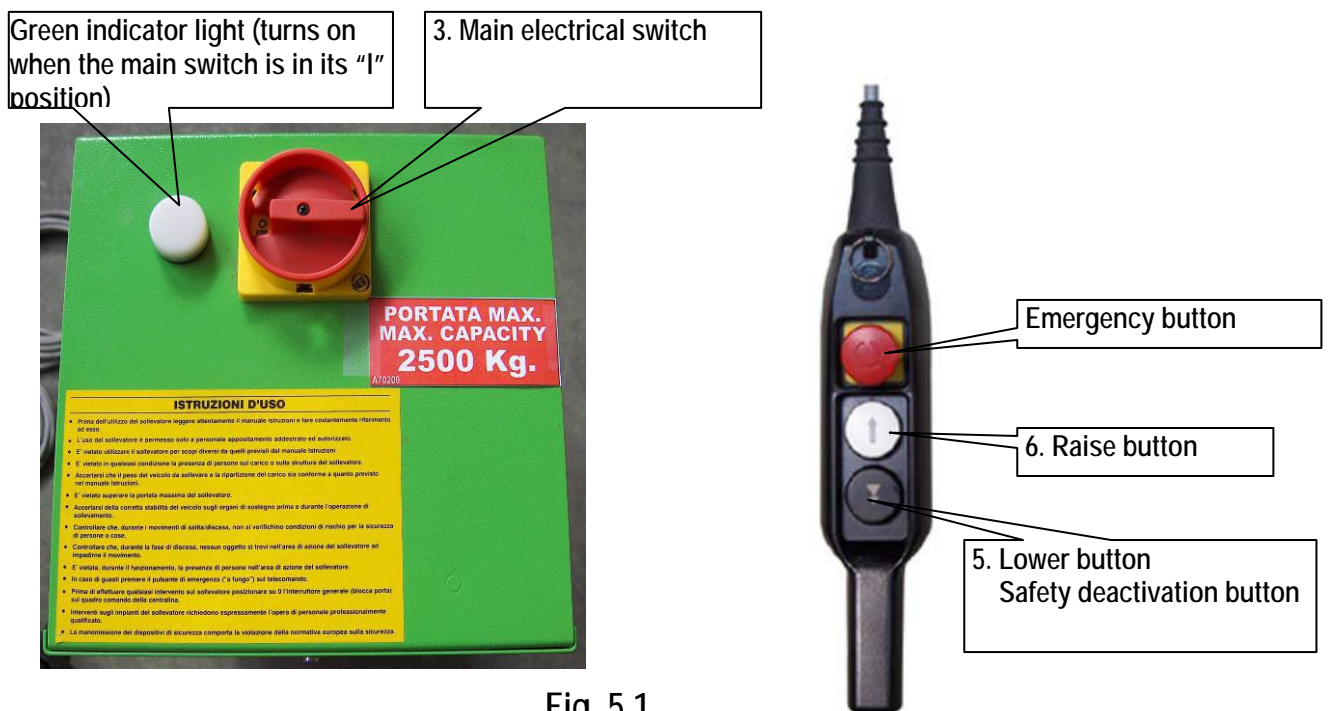

Fig. 5.1
After having performed all of the system's connections as described above, press the raise button on the remote control (fig. 5.1).
The KOALA lift's command and control devices are illustrated in fig. 5.1 below and are described in the relative legend.
- Press the button (6, fig. 5.1) and hold it down. Once the desired position has been reached, release the button.
- Press the button (5, fig. 5.1) to lower the LP until it is stopped by the mechanical safety catch, then release the button.
set the main switch (3, fig. 5.1) to its «0» position.*